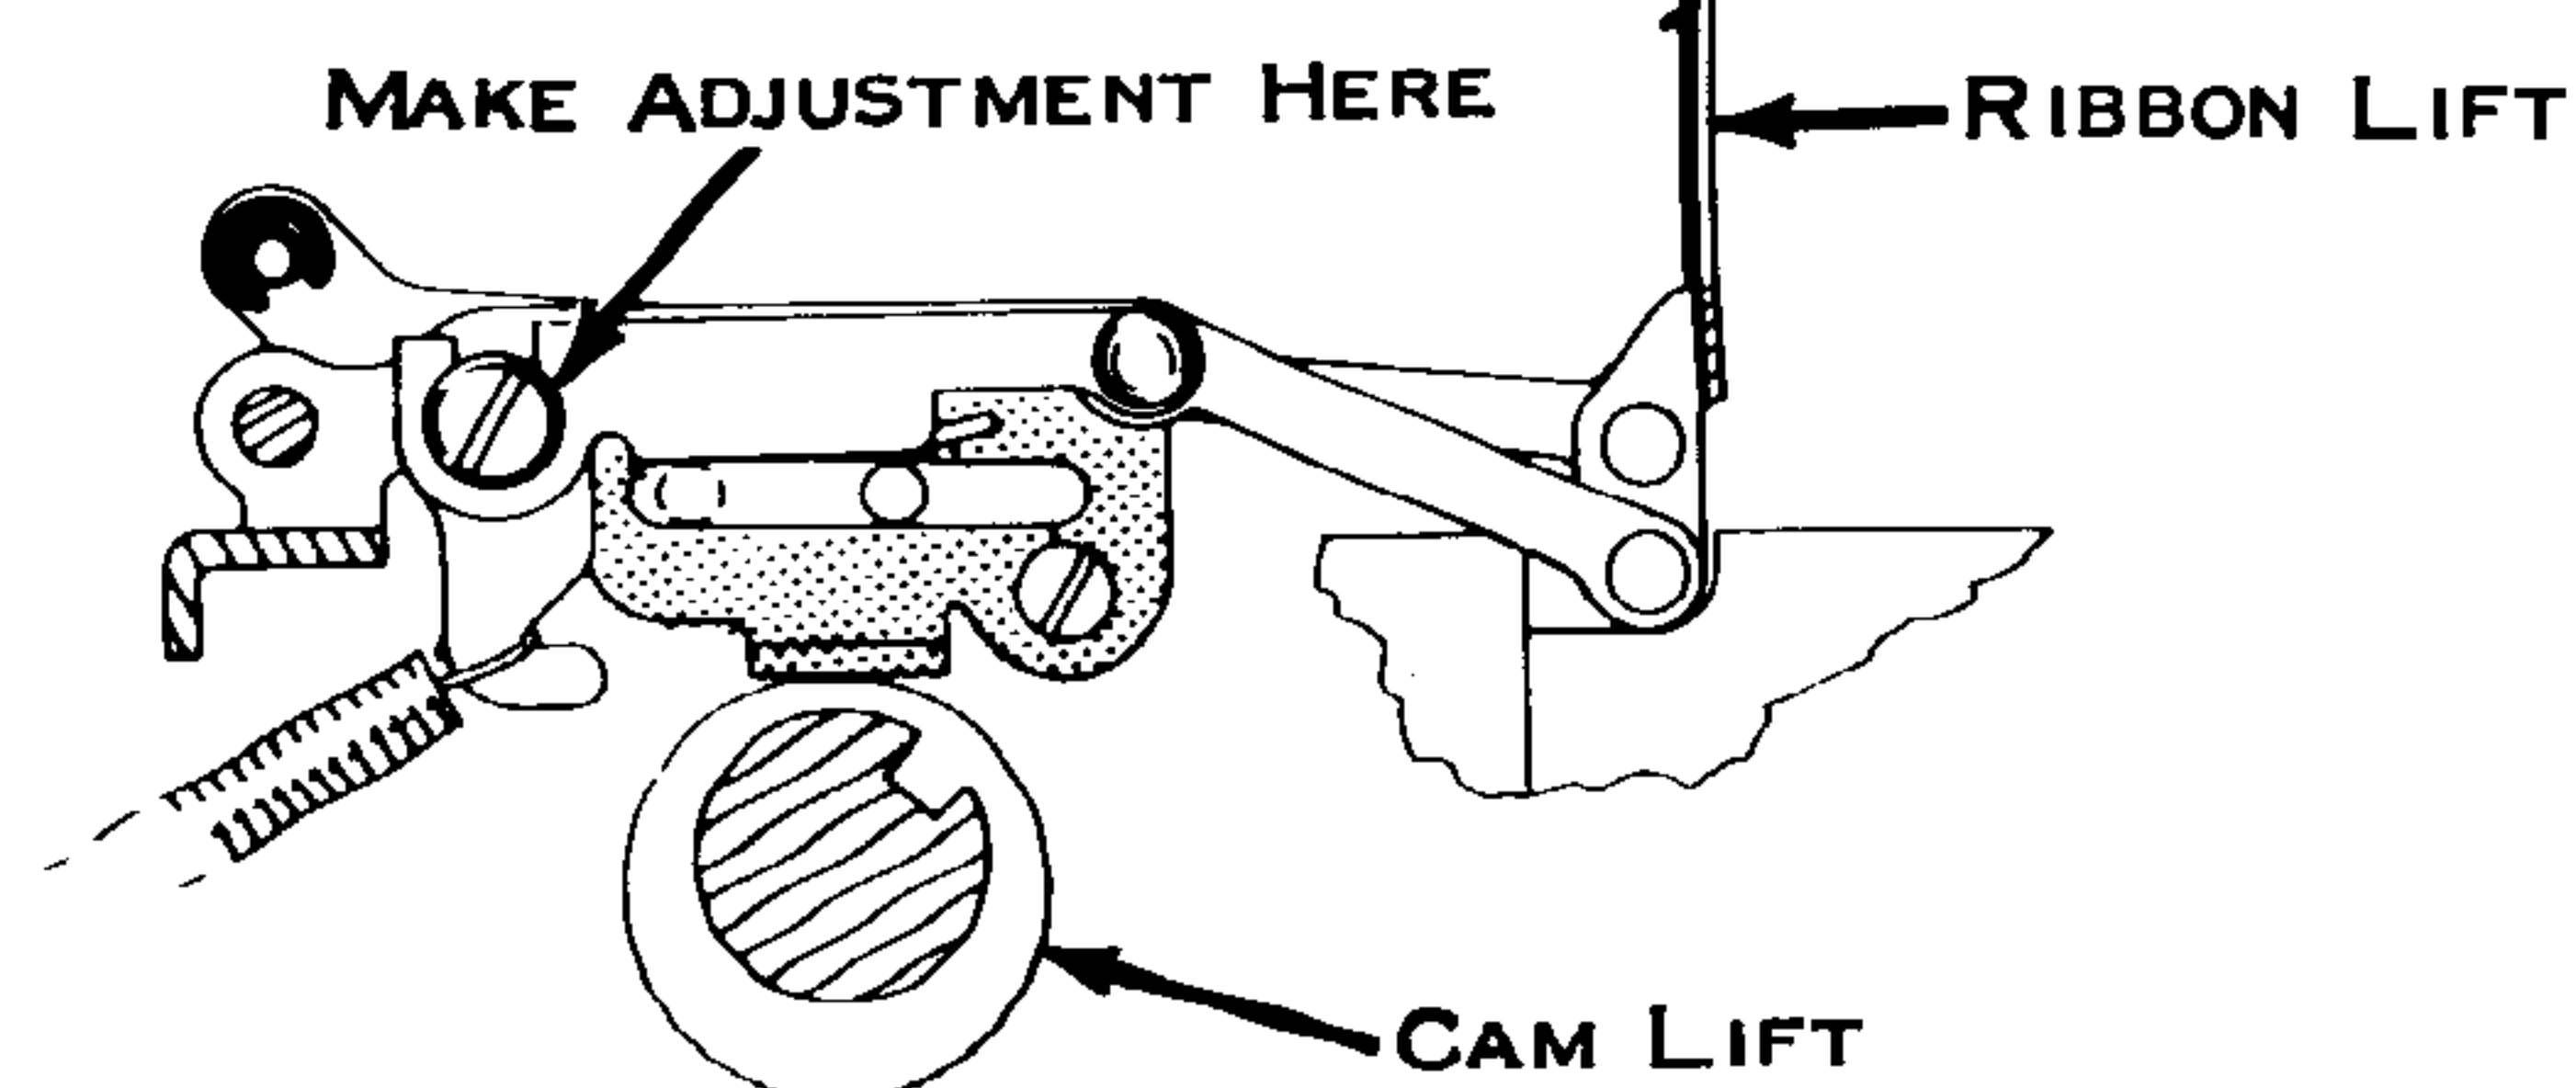

Figure 208. Ribbon Lift Guide Plate
5. Ribbon Lift Guide Plate (Fig. 208) - Adjust as low as possible without causing a change in the ribbon lift guide height as the ribbon lift lever is moved from the low lift to the high lift position.